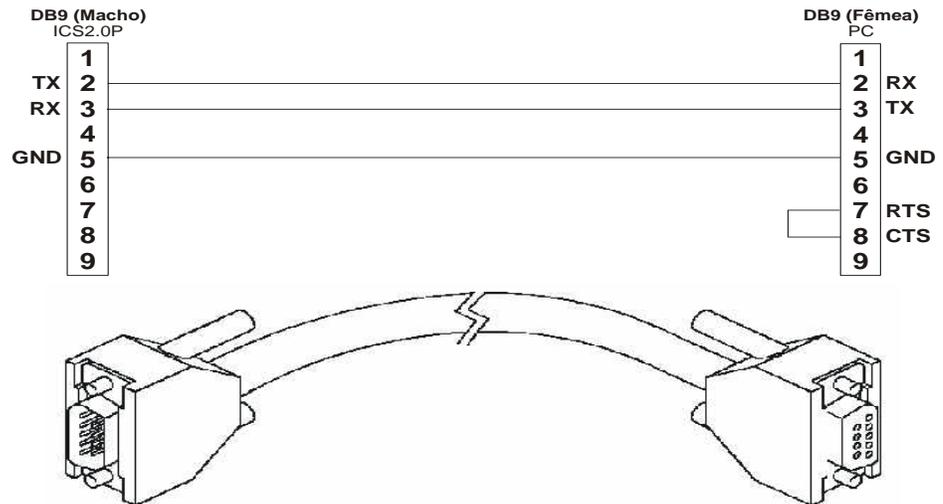

Fig. 4- EIA-232 Communication Serial Cable
- EIA-232 cable, male-female, 1/1 according to figure4. The length must be specified according to the part number.